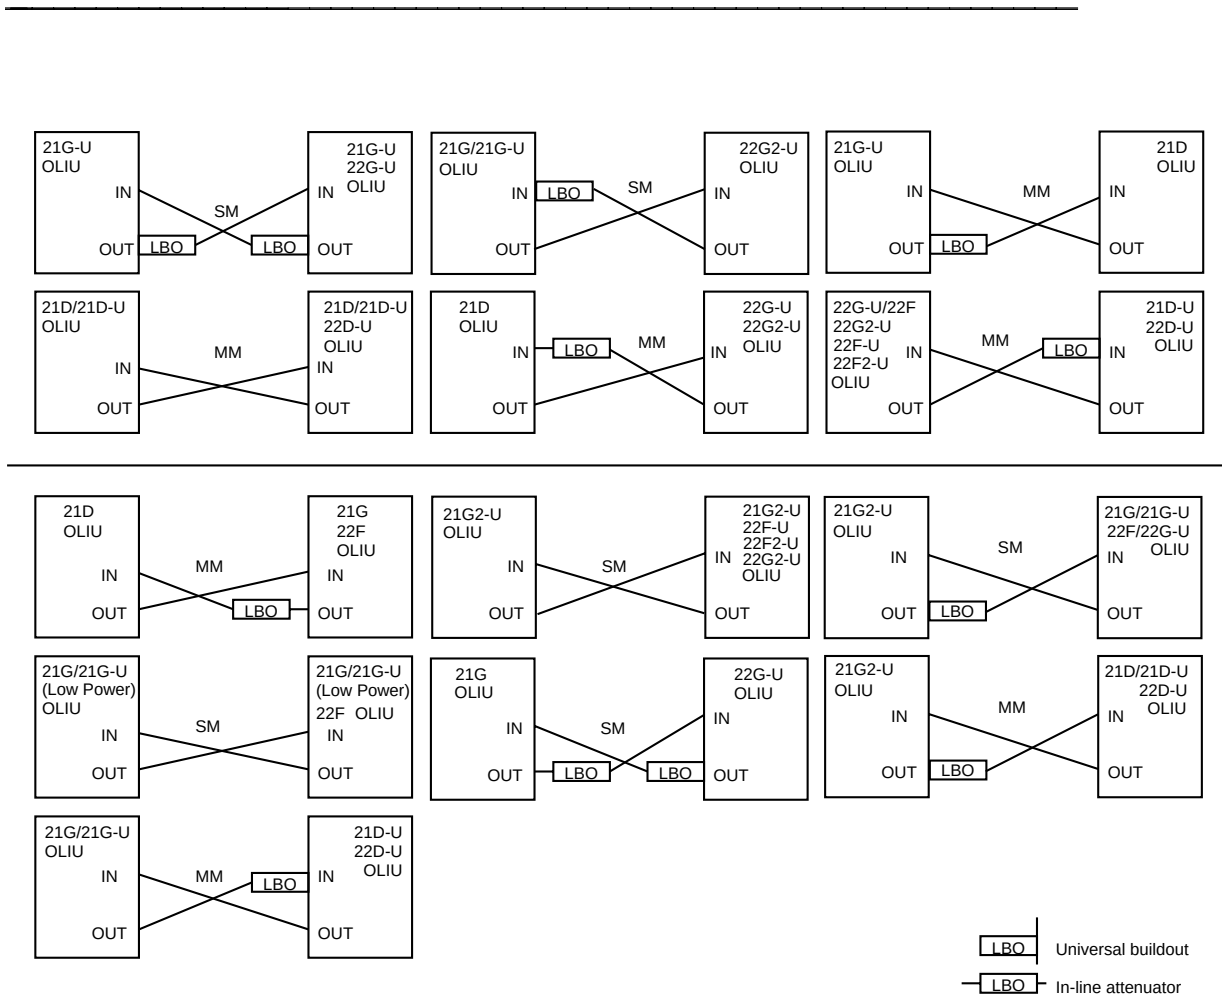

Figure 1. DDM-2000 OC-3/OC-12 OC-3/IS-3 Fiber Optic Connections and Line Buildouts
Steps 6 through 9 are used to measure optical power. Replace LBOs with 0 dB LBOs per Figures 1 and/or 2. Connect the optical fiber transmit cable to the **OLIU OUT** connection. Measure the optical power of the optical fiber receive cables at the other ends using an optical power meter.
6. At both ends of the optical span, replace the *ST*, *FC/PC*, or *SC* LBOs with 0 dB LBOs per Figures 1 and/or 2 [**DLP-538**].
9. Replace the lightguide buildout assemblies with the correct buildout assemblies per Figures 1 and/or 2 and Tables C, D, E, F, G, H, I, and/or J [**DLP-538**].